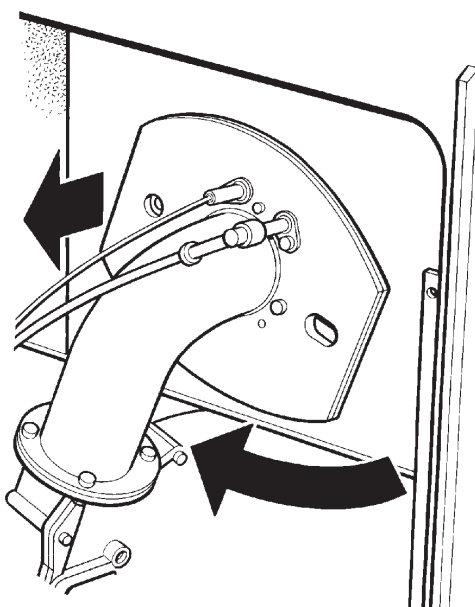

Fig. 4A
6. Remove burner by twisting clockwise and then remove. (See Fig. 4A).